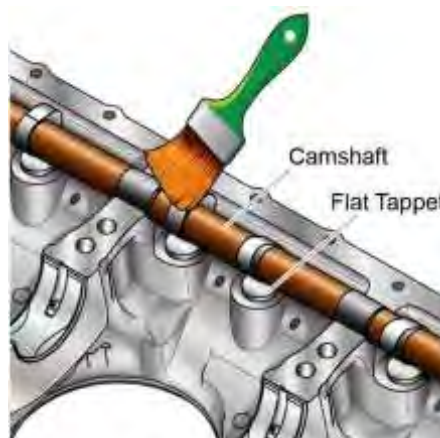

Figure 87
- (4) Apply engine oil mixture (15% pre-lubricant (STP or equivalent) and 85% SAE No. 50 mineral base aviation grade lubricating oil) to the camshaft bearing saddles (Figure 86), main bearings on each crankcase half (Figure 85), and the camshaft lobes (Figure 87).